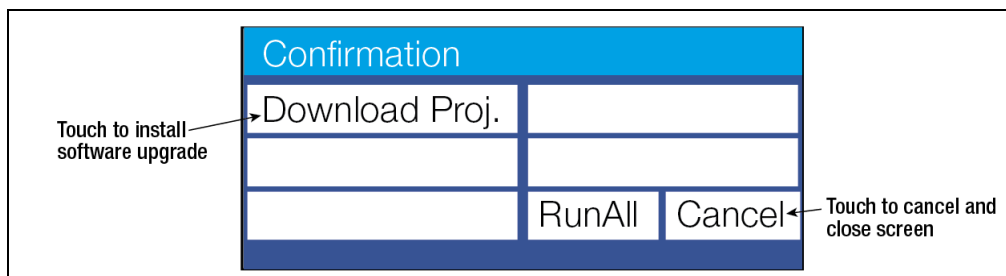

Figure 21. FCC Software Upgrade Screen
4. When the Confirmation screen displays, touch the **Download Proj.** button to install the software upgrade (see Figure 21).